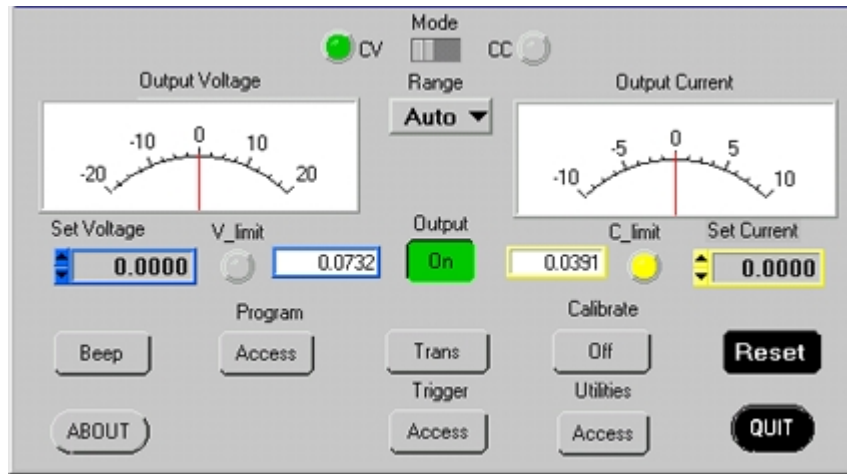
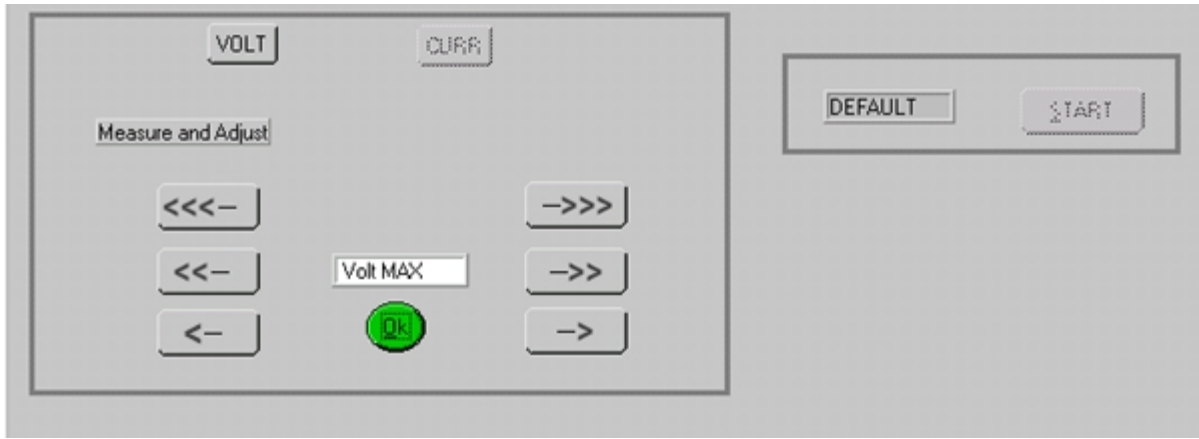

FIGURE 3-3. MAIN PANEL
FIGURE 3-4. CALIBRATION PANEL
- A. REPLACE PAR. 3.3 CALIBRATION (INCLUDING TABLES 3-1 THROUGH 3-3 AND FIGURES 3-3 AND 3-4) WITH THE FOLLOWING (FIGURE 3-2 UNCHANGED, INCLUDED FOR CLARITY):
All adjustments are done using the six arrow buttons of the Calibration Panel (see Figure 3-4 and Table 3-1). The double arrow buttons \ll and \gg either increase (\gg) or decrease (\ll) the output five steps at a time; the \leftarrow and \rightarrow buttons either increase (\rightarrow) or decrease (\leftarrow) the output one step at a time. The triple arrow buttons \lll and \ggg either increase (\ggg) or decrease (\lll) the output 80 steps at a time. The \ll , \gg , \leftarrow , and \rightarrow buttons only work within the 80-step window established by \lll and \ggg .
1. Click on the **Calibration Off** button on the main panel (see Figure 3-3). This will open a calibration panel (see Figure 3-4 and Table 3-1) that allows calibration in either voltage or current mode.
- Voltage calibration is complete. If desired, the voltage calibration can be repeated by clicking **Volt** at the calibration panel (Figure 3-3). If current calibration is not necessary, proceed to step 19.
- At the calibration panel (Figure 3-3) click **CURR** to begin current calibration of the unit. **Connect CALIBRATION RESISTOR!** window opens.
18. Current calibration is complete. If desired, the current calibration can be repeated by clicking **Curr** at the calibration panel (Figure 3-4).
19. To exit Calibration, click on the **Calibration On** button on the main panel (Figure 3-3). This will open a panel that allows the calibration to be saved. Click **SAVE** to save the calibration constants (both voltage and current), or **CANCEL** to return to the old calibration.